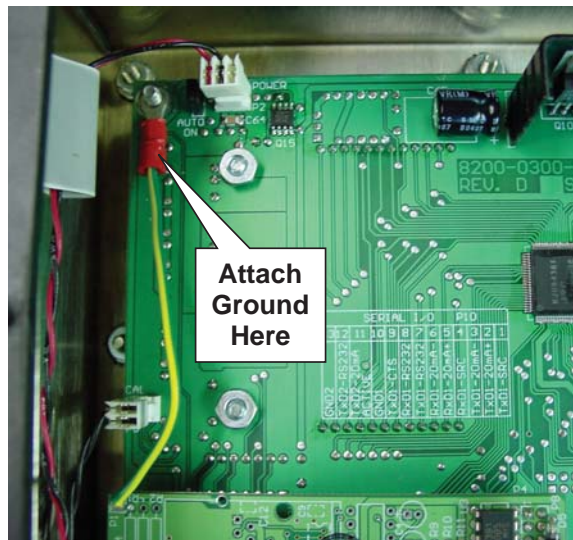

Figure No 9
8. To attach the ground wire, remove a 6-32 nut and washer from the corner of the main board. Refer to Figure No. 9.